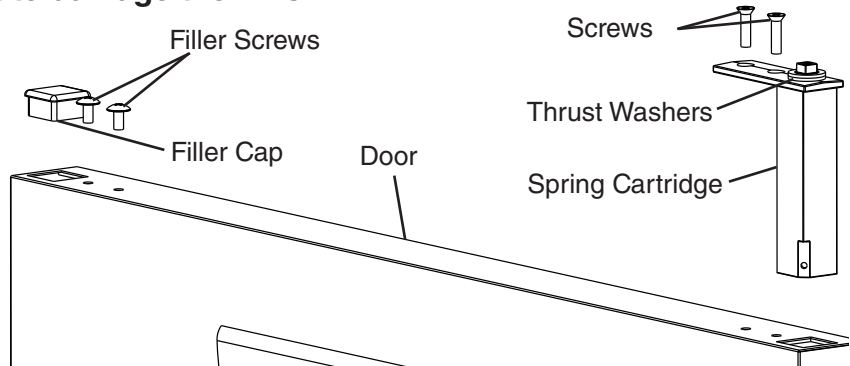

**Fig. 15**
- 8) Remove the filler cap, filler screws, and spring cartridge. See Fig. 15. Leave the thrust washers in place on the spring cartridge. **NOTICE! Spring cartridge may be difficult to remove. Be careful not to damage the finish.**